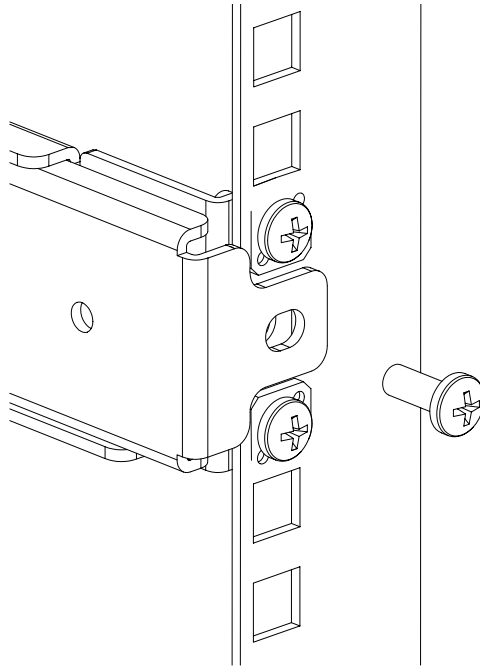
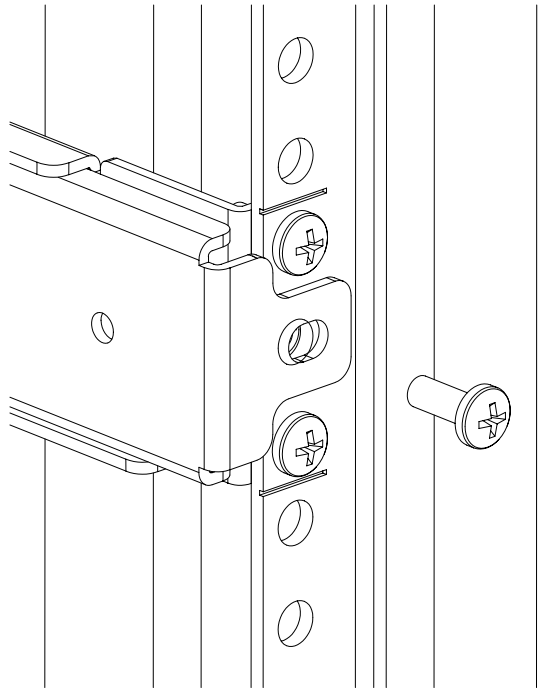

Figure 12: Installing the switch into a rack (HP 10000 series or comparable EIA cabinet)
Figure 13: Installing the switch into a rack (HP System/e cabinet)
Insert the switch into the rack and install (2) #10-32 x 1/2-inch Phillips pan-head screws with captive star lock washers with one on each side. See Figure 12 and Figure 13.